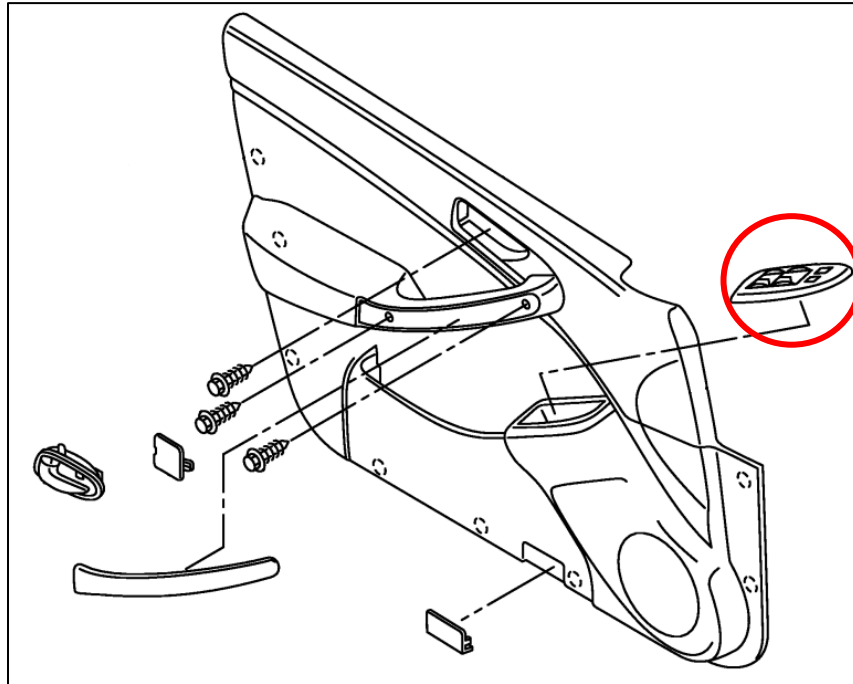

Figure 20
5. Pry up the Door Control Panel using a Trim Removal Tool. *Figure 20.*